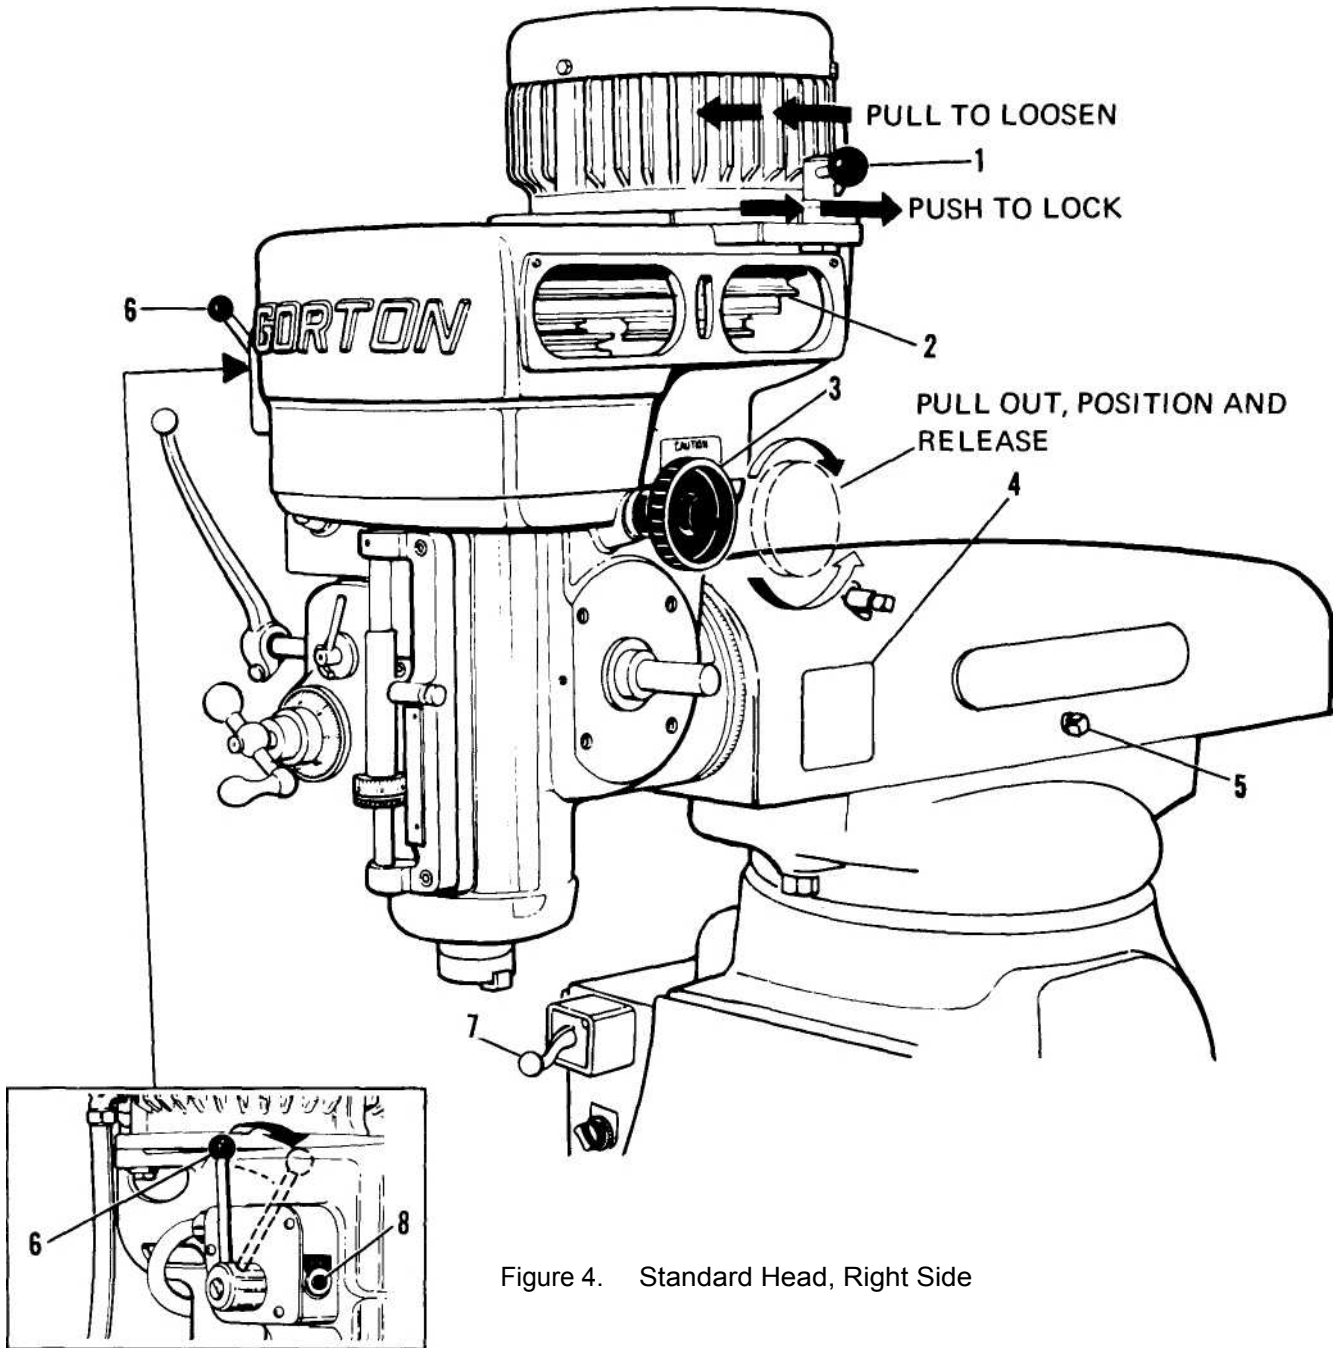

Figure 4. Standard Head, Right Side
### INSERTING COLLETS/ADAPTERS (Figure 4)
TO PLACE IN OPERATION **SPINDLE** (Figure 4)
Be certain that V-belt (standard head, 2, figure 4) is engaged (spindle motor pushed to rear and locked) and that brake lever (6, figure 4) is released - push to rear. Place High-Neutral-Low speed range selector (3, figure 4) on right side of head in desired position. Refer to spindle speed plate (4)
Push spindle start button (8, figure 4) on the head, adjacent to the brake lever, to start spindle motor. To stop the spindle, pull brake lever (6, figure 4) forward. When brake lever is forward (on), push button will not start spindle. Brake lever must be in OFF position to start spindle.
### TO CHANGE SPINDLE SPEEDS (STANDARD HEAD) (Figure 4)
Pull brake lever (6) forward to stop spindle motor. Place the High-Neutral-Low selector (3) in desired position - pull out, rotate to desired position and release. Grasp motor locking lever (1, figure 4) and pull to front - motor will pivot on left side mounting bolt until stop is reached. Belt tension will be released and belt will be loose enough to slip into new position.
Check to determine that brake lever (5) is pushed to rear and cutter area is clear - then push start button (8, figure 4) next to brake lever to start spindle motor.